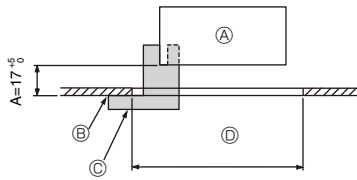
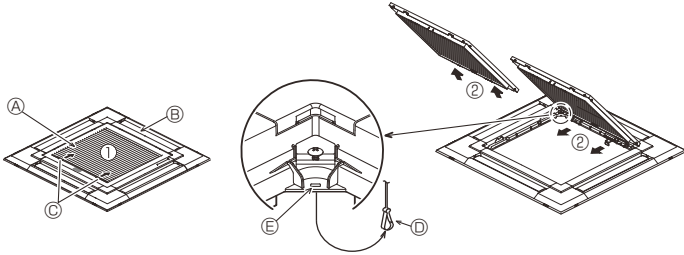

Fig. 9-2
Fig. 9-3
9.2. Preparing to attach the grille (Fig. 9-2)
- With the gauge ② supplied with this kit, adjust and check the positioning of the main unit relative to the ceiling surface. If the main unit is not properly positioned relative to the ceiling surface, it may allow air leaks or cause condensation to collect.
- ① Main unit
- ② Ceiling surface
- ③ Installation gauge ② (inserted into the main unit)
- ④ Ceiling opening dimensions
9.2.1. Removing the intake grille (Fig. 9-3)
- Slide the levers in the direction indicated by the arrows ① to open the intake grille.
- With the intake grille in the "open" position, remove the hinge of the intake grille from the grille as indicated by the arrows ②.
[Fig. 9-3] [Fig. 9-4]